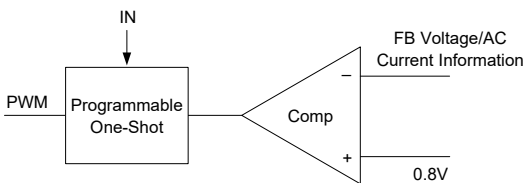

Figure 4. Simplified Control Schematic
The simplified control schematic is shown in Figure 4. The high-side switch on-time is determined solely by a one-shot whose pulse width is inversely proportional to input voltage (IN). The one-shot is triggered when the internal 0.8V is higher than the combined information of FB voltage and the AC current information of inductor, which is processed and obtained through the sensed lower-side MOSFET current once it turns-on. The added AC current information can help the stability of constant-on time control even with pure ceramic output capacitors, which have very low ESR. The AC current information has no DC offset, which does not cause offset with output load change, which is fundamentally different from other V^2 constant-on time control schemes.